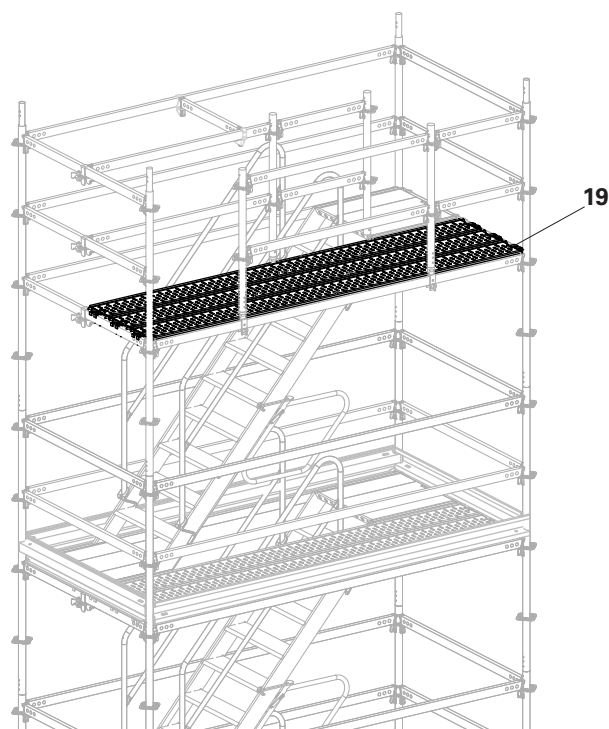

Fig. A5.04
1. Raise Steel Decks UDG-2 (19) to the position shown. (Fig. A5.04)